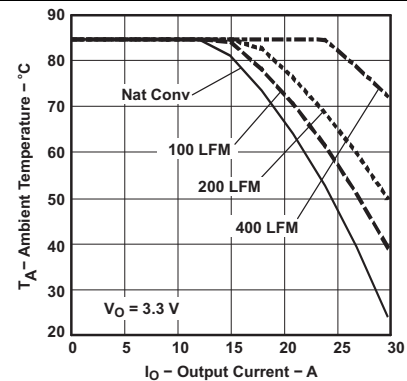
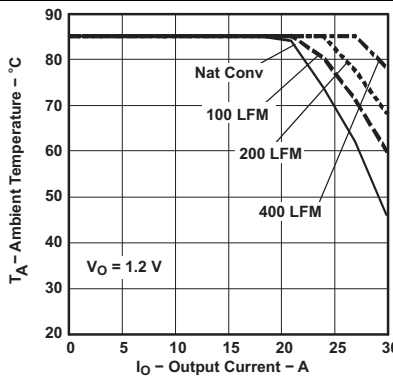

Figure 4. Ambient Temperature vs. Output Current
Figure 5. Ambient Temperature vs. Output Current
- (12) The temperature derating curves represent the conditions at which internal components are at or below the manufacturer's maximum operating temperatures. Derating limits apply to modules soldered directly to a 100 mm x 100 mm double-sided PCB with 2 oz. copper. Applies to Figure 5 and Figure 4.